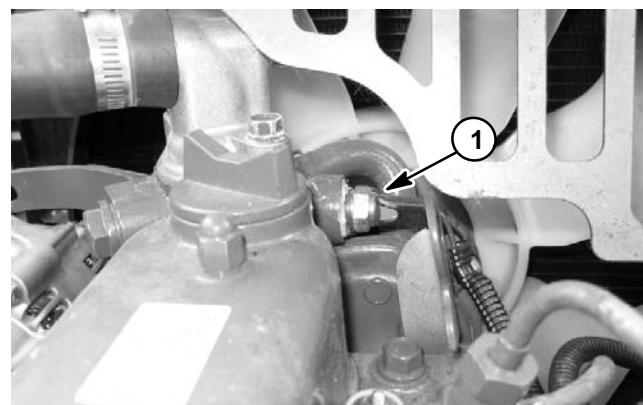

Figure 12
- E. Disconnect blue wire from temperature sender (Fig. 12).